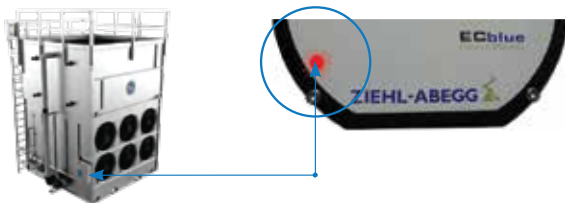

Figure 12. Flashing Light indicates Error Code
**NOTE:** Figures 12 and 13 are from the Ziehl-Abegg ECblue Quick Start Guide